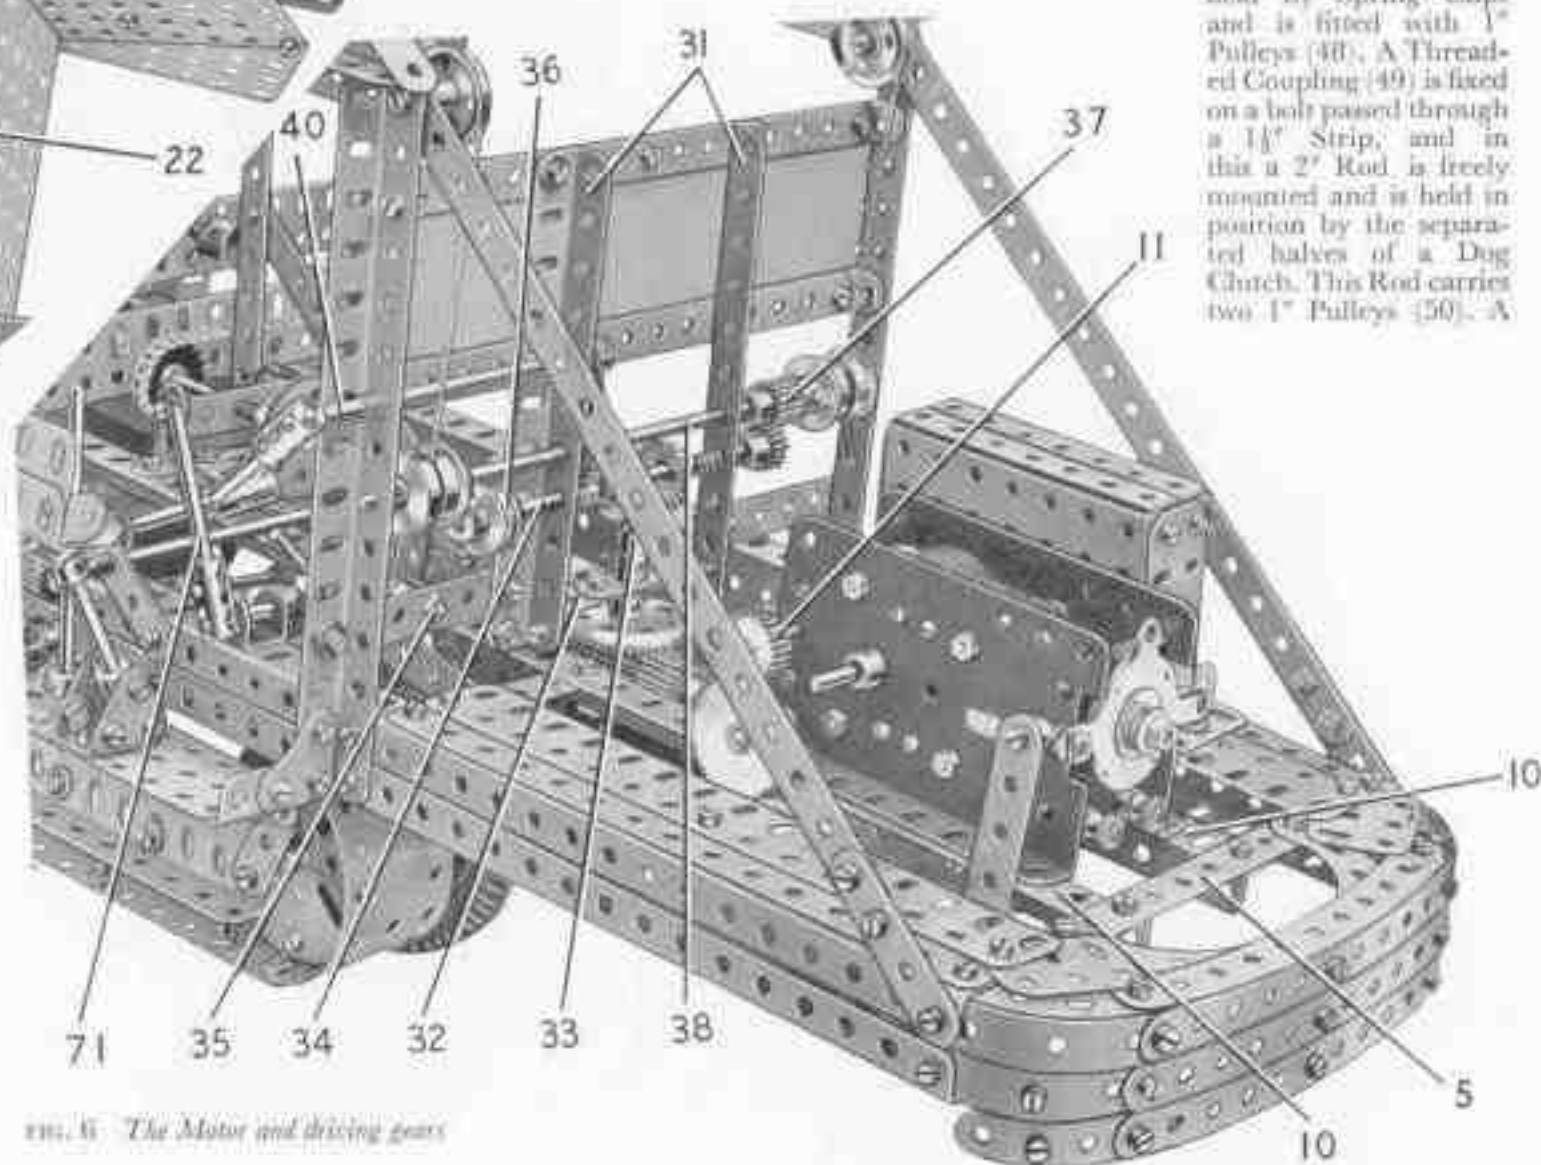

FIG. 6. The Motor and driving gears.
An E15R Electric Motor is bolted by its flanges to the Girders (10) (see Fig. 6) and a
$\frac{3}{16}$ " Pinion on its armature shaft drives a 60-tooth Gear (see Fig. 2) on a $3\frac{1}{2}$ " Rod mounted in the Motor side-plates. This Rod carries a $\frac{1}{2}$ " Pinion (11) (Fig. 6) that drives a 50-tooth Gear on a $2\frac{1}{2}$ " Rod. A Worm (12) (Fig. 2) fixed on this Rod engages a $\frac{1}{2}$ " Pinion on an $11\frac{1}{2}$ " Rod (13). The bearings for Rod (13) are provided by a Double Arm Crank (14) and a $1\frac{1}{2}$ " Strip, each of which is attached to the Girders (10) by two Angle Brackets. The $1\frac{1}{2}$ " Strip is positioned immediately behind a $\frac{1}{2}$ " Pinion (15) (Fig. 8) fixed on the Rod, which carries also a $\frac{1}{2}$ " diameter $\frac{1}{2}$ " face Pinion (16) and a $\frac{3}{4}$ " Bevel Gear (17).
Two $5\frac{1}{2}$ " Angle Girders (31) are connected to the Girders (10) by Corner Angle Brackets, and each is joined to one of the Girders (2) by a 3" Strip. The Girders (31) are connected by two $5\frac{1}{2}$ " x $2\frac{1}{2}$ " Flexible Plates overlapped seven holes and edged by two $7\frac{1}{2}$ " Strips. These are attached to the Girders (2) by Angle Brackets. A $2\frac{1}{2}$ " x $\frac{1}{2}$ " Double Angle Strip (32), with a Double Arm Crank bolted to it, is fixed between the lower ends of the Angle Girders (31) (Fig. 6).
A $1\frac{1}{2}$ " Contrate that meshes with the Pinion (16) (Fig. 6) is fixed on a $1\frac{1}{2}$ " Rod free in the Double Angle Strip (32) and in the boss of the Double Arm Crank. A $\frac{1}{2}$ " Pinion (33) is fixed on the upper end of the Rod. A cross shaft (34) is formed by a 5" Rod mounted in the Girders (31), and this carries two $\frac{1}{2}$ " Contrates arranged one on either side of the Pinion (33), with a Compression Spring between each Contrate and one of the Girders (31).
The movement of Rod (34) is controlled by a Bell Crank mounted on a Pivot Bolt (35) (Fig. 6). One arm of the Bell Crank is extended by a 1" Rod held in a Handrail Support, and a Threaded Pin is fixed in the other arm. The Threaded Pin engages a $\frac{1}{2}$ " loose Pulley (36) with a $\frac{1}{2}$ " Washer and a Collar on either side of it. A $\frac{1}{2}$ " Pinion on Rod (34) drives a $1\frac{1}{2}$ " diameter, $\frac{1}{2}$ " face Pinion (37) on an 8" Rod (38). This Rod carries two pairs of $1\frac{1}{2}$ " Flanged Wheels and a Ratchet Wheel (39). A Pawl on a $1\frac{1}{2}$ " Rod (40) engages